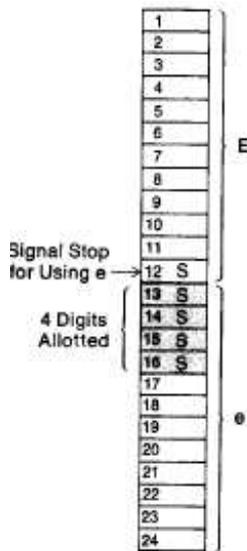

Fig. 1
2. To use the LOWER HALF of a register (f, e, d) in this manner there must be a 'signal stop' (an S) in the 12th position of the register concerned (see Fig. 1).